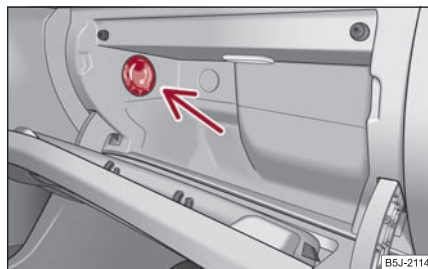

Fig. 108 Storage compartment: Using cooling system
- You can switch the cooling system on or off using the control dial ⇒ **fig. 108**.